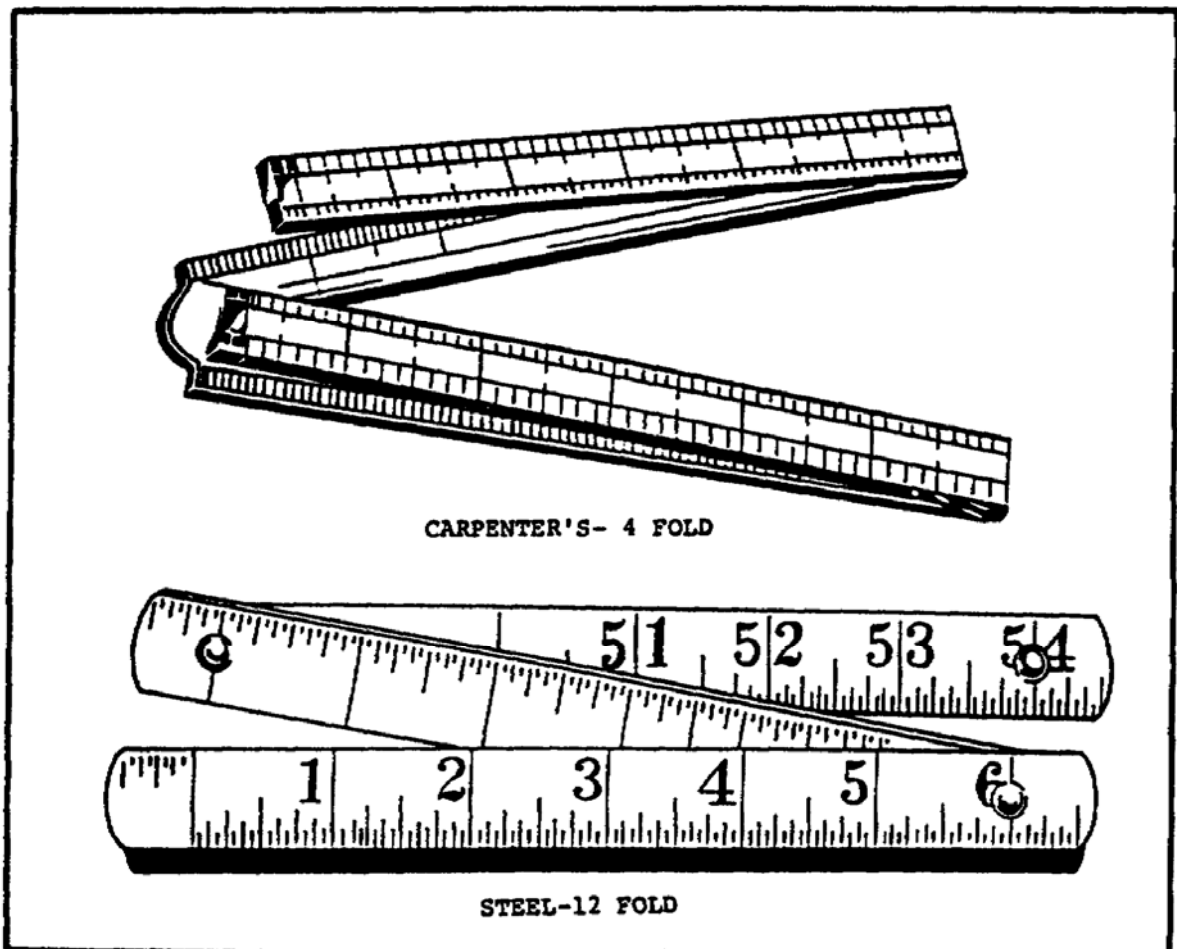

FIGURE 166. TYPES OF FOLDING RULES.
(3) *Folding Rules*. Folding rules (figure 166) are obtainable in wood or metal, having 4 to 12 folds, from 2 to 6 feet in total length. See figure 166 for examples of variation in folding rules. These rules cannot be relied on for extremely accurate measurements because a certain amount of play develops at the joints after they have been used for a time.